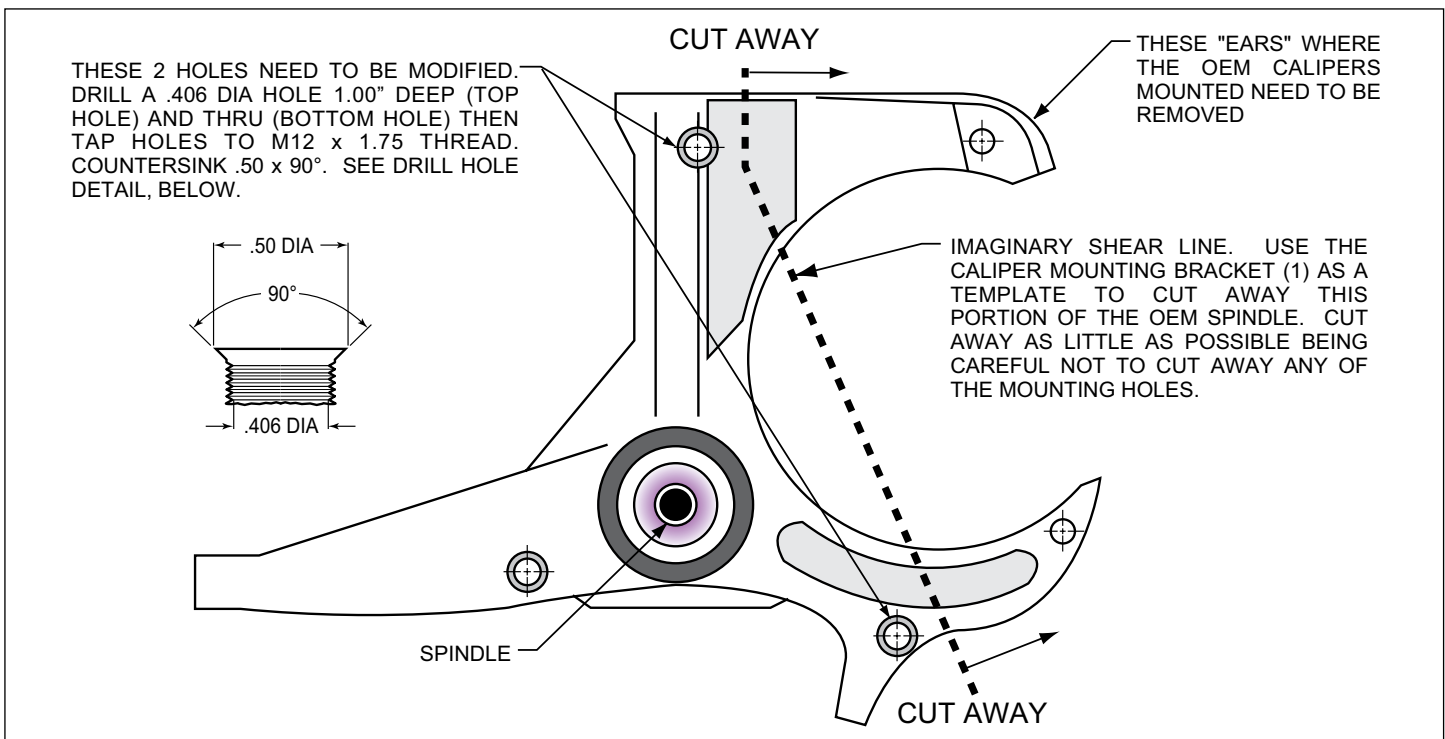

Figure 1. Steering Arm / Spindle Modifications
**NOTE:** These modifications should be performed by a qualified machinist and completed before assembly of the Wilwood disc brake kit begins. Refer to Figure 1 as necessary (numbers in parenthesis refer to the parts list). Only one view of the steering arm/spindle is shown, but the modifications need to be performed on both steering arm/spindles.
The two OEM holes that will be used to mount the caliper mounting bracket (1) need to be modified. Drill a .406 diameter hole, 1.00” deep (top hole), and thru (bottom hole), Figure 1, then tap holes to M12 x 1.75 thread. Countersink the holes to .50 x 90°. The “ears” that protrude to form a “C” shape need to be removed to facilitate the installation of the Wilwood kit. Using the bracket as a template, mark two cut marks on the steering arm. Remove as little as necessary from the “C” shape, being careful not to cut away any of the mounting holes required to bolt on the bracket.
**NOTE:** Numbers in parenthesis refer to the parts list and Figure 1 on the preceding pages.
- Insert the dynamic mount wear clips (23) into the slots in the hat (21), Photo 6. Orient the rotor (9) as shown in Figure 1 and Photo 7, with the flush side of mount lugs facing the hat. Secure the rotor to the hat using the snap ring (22) by simultaneously pushing down on the rotor and installing the ring into the groove in the hat, as shown in Photo 8. Carefully inspect snap ring to ensure complete engagement in the groove.